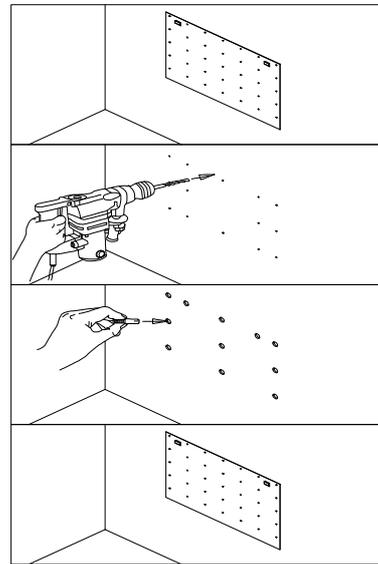

Fig.3
5. Referring to Fig. 3, secure the mounting plate to the wall.